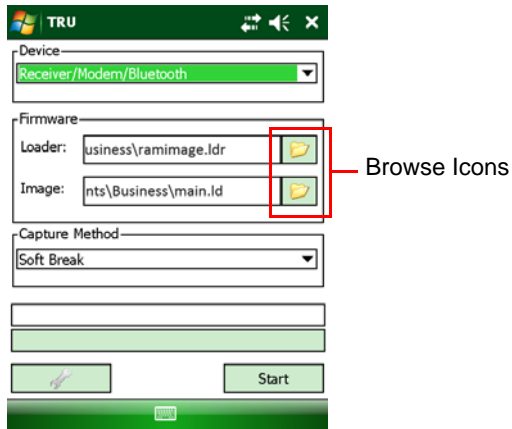

Figure 4-6. TRU – Upload Firmware Window
- Click the **Firmware** icon. The **Upload Firmware** window appears (Figure 4-6). This window enables you to upload firmware files to the connected receiver.